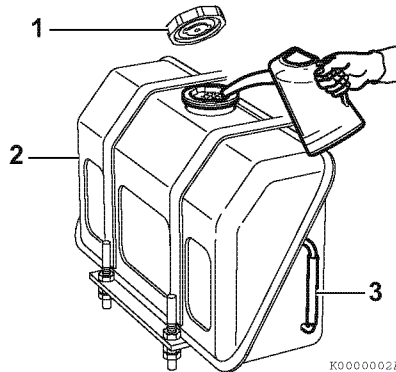

Fig. 00-58
1. Clean the area around the fuel cap (1, Fig.00-58).
2. Remove the fuel cap (1, Fig.00-58) of the fuel tank (2, Fig.00-58).
3. Fully fill the tank with the fuel while observing the fuel level sight gauge (3, Fig.00-58). Never overfill the fuel tank.
4. Reattach the fuel cap (1, Fig.00-58), and hand-tighten it. If you over-tighten it, the fuel cap will be damaged.